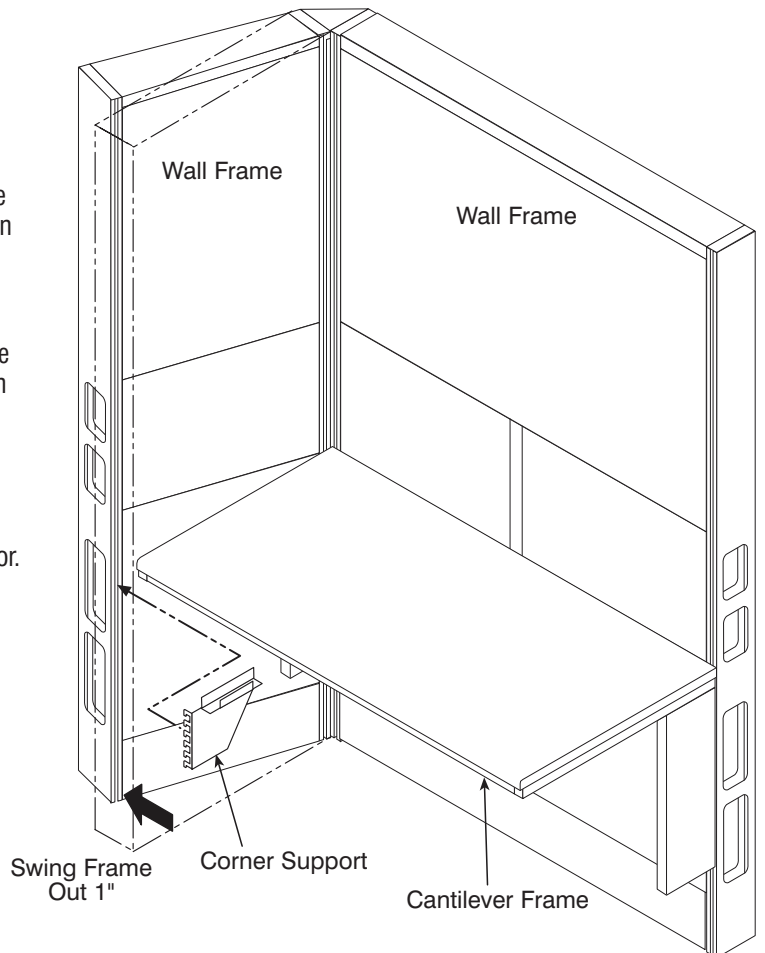

Figure 4-12 Attaching Corner Table Support
3. Loosen the side frame from the corner post just enough to allow it to swing a minimum of 1" sideways from the corner of the work surface as shown in Figure 4-12.